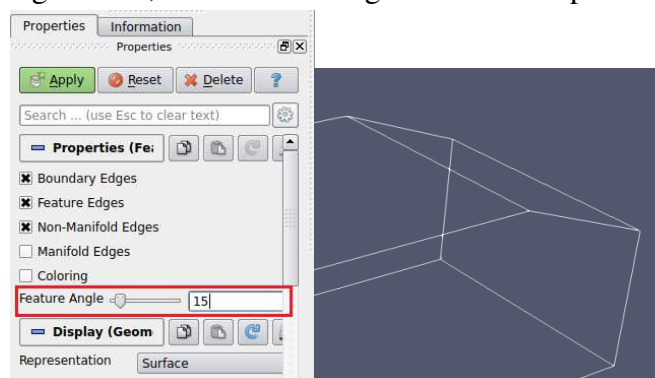

Figure 2.13: Change "Feature Angle" to show edge.
- 6) Replace the default “Feature Angle” by a value lower than 20 (19, 18, 17, ..., 2) and click apply to show the missing edge as show in figure 2.13.